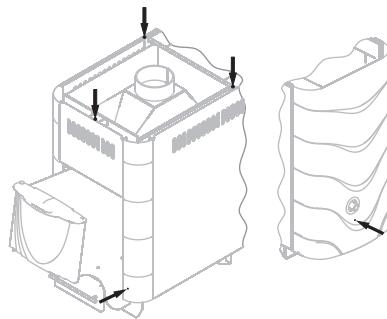

Figure 16. Drilling screws for dismantling of the convector of the stove
- Remove the convector by unscrewing 6 self-driving screws (Figure 16)